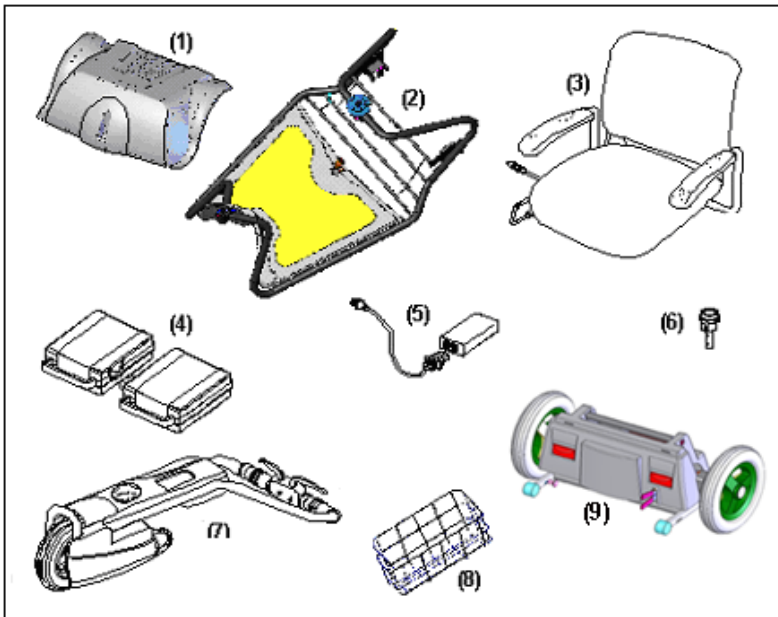

Figure 1
1.1 Unpack as follows (See Fig. 1)
- Identifying the **SUPERLIGHT** Components (See Fig. 1)
(1) Batteries Cover	(2) Frame
(3) Seat	(4) Batteries (left & right)
(5) Charger	(6) Seat Adapter
(7) Tiller	(8) Rear Basket
(9) Power Unit